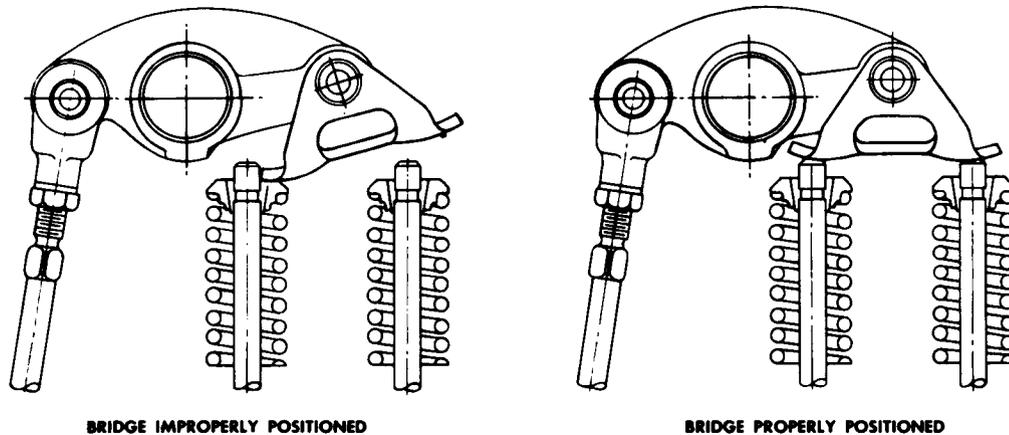

Fig. 37 - Relationship Between Exhaust Valve Bridge and Valve Stems
**NOTE:** On four valve cylinder heads, there is a possibility of damaging the exhaust valves if the exhaust valve bridges are not resting on the ends of the exhaust valves when tightening the rocker shaft bracket bolts. Therefore, note the position of the exhaust valve bridges (Fig. 37) before, during and after tightening the rocker shaft bolts.